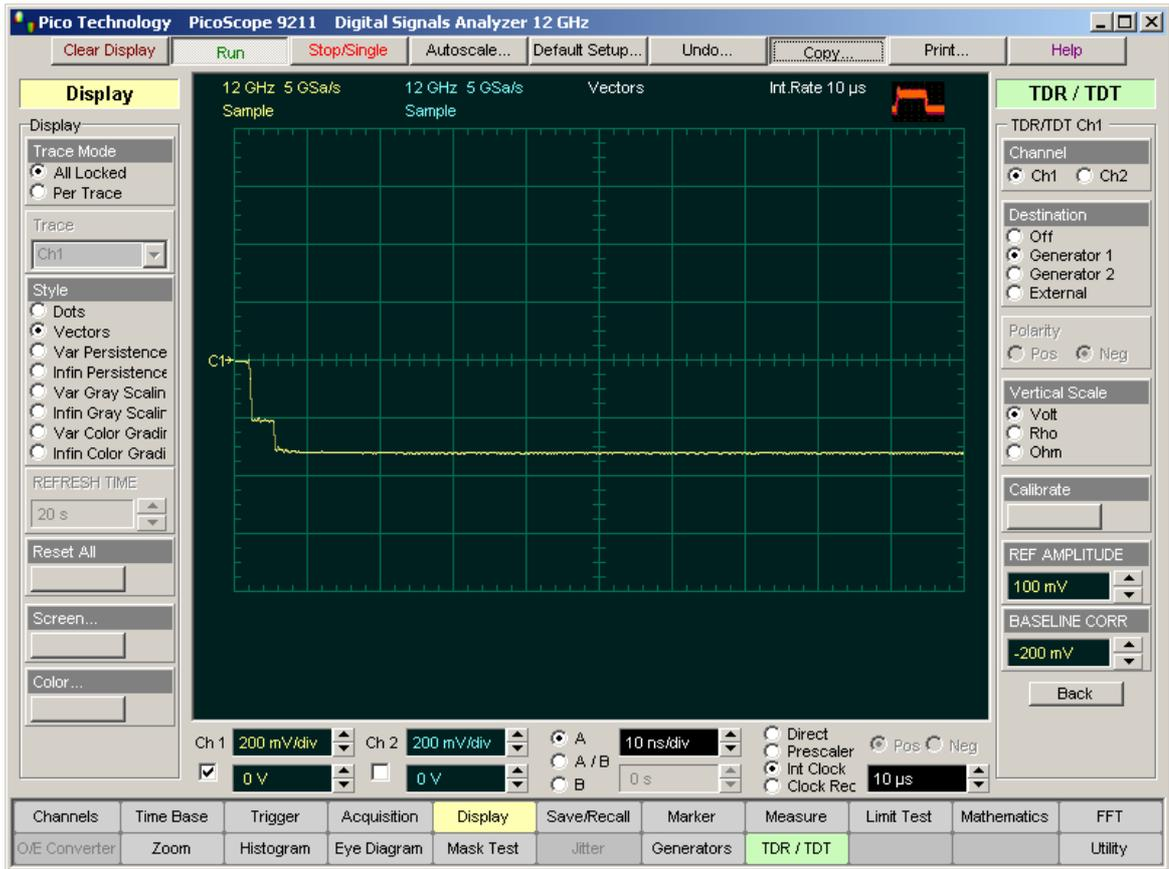

Figure 2
8. Click Generator 1 in the Destination ^[322] menu. See Figure 2. Notice that reflected step has similar slope to the incident step.
The incident step (the first negative step in Figure 2) coming to the sampler from one of the outputs of the Resistive Power Divider has approximately 200-mV amplitude and is not used for TDR measurements.
The same 200-mV step coming from the second output of the Resistive Power Divider goes through the 30-cm precision cable to the transmission line and is used as a TDR step. It is a reflected step. All the reflections from transmission line return to the sampler repeatedly passing through the Resistive Power Divider. That is why step amplitude is divided by 2 once more and is approximately 100 mV (the second negative step in Figure 2).